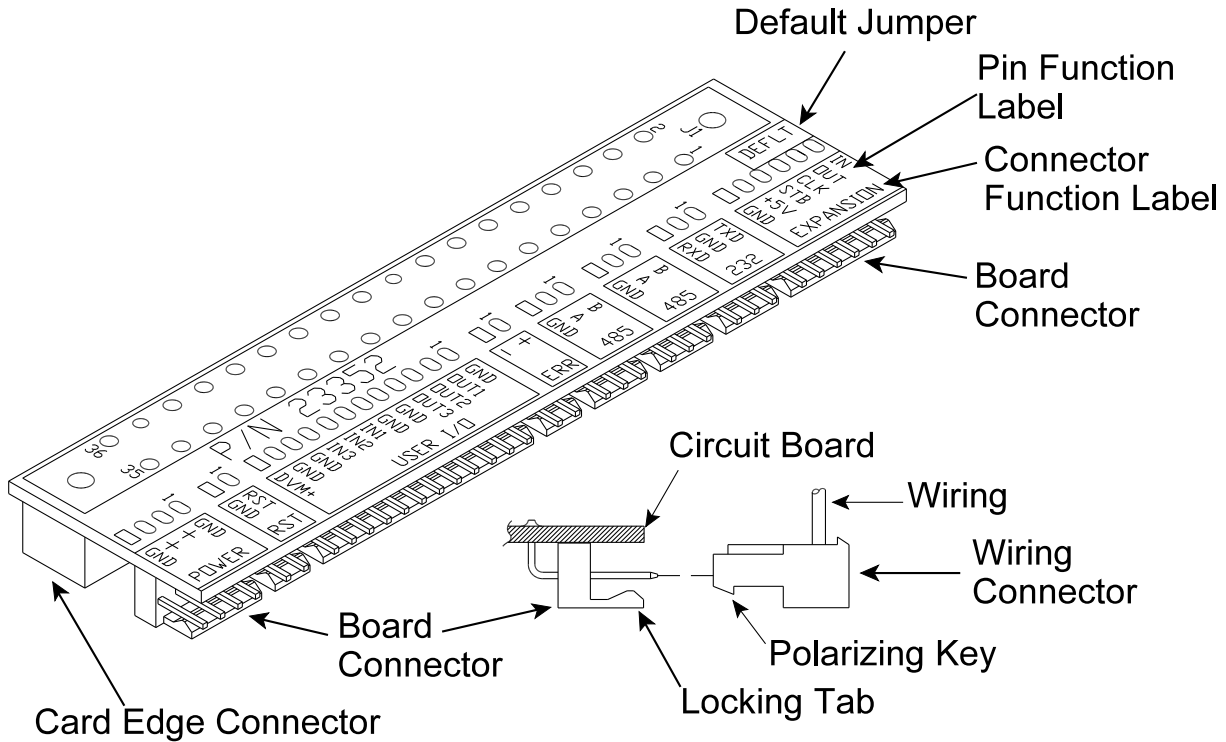

Figure 3-1 Card Edge Adapter Board P/N 23352
3. Card Edge Adapter Board, P/N 23352 (Figure 3-1)
The Card Edge Adapter Board (Adapter P/N 23352), shown in Figure 3-1, converts the card edge connector on the rear of the pump to a set of 0.1-inch connectors compatible with the 50300 series pump accessories, including the power supply cable and the communications cable. Inset the card edge connector on the board onto the card edge of the pump. The .1-inch connectors should be located near the center of the rear of the pump.
connector into the adapter board connector labeled “232”. Note the polarization of the locking tab on the 3-pin connector as shown in Figure 3-1. Plug the DB-9 connector into a serial port on the PC.